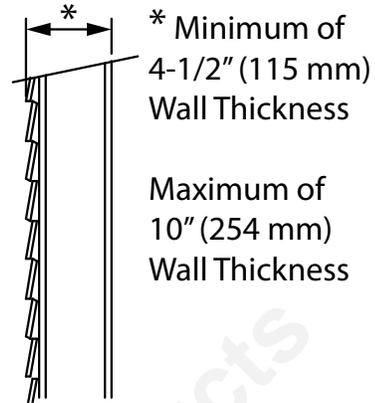

Figure 7
- Taking into account the minimum clearances mentioned in table two, locate the closest wall stud (which will serve to hold the appliance) and mark the square hole center at a distance "A", (if wall stud is at the right), or "B", (if the stud is at the left) (see table 2 and Figures 7 and 8). Note: Use the heat shield to help hold the bracket in place when marking the square hole locations. Note: At least one side of hanging bracket must be attached to a wall stud.
Measure thickness of the wall as shown in figure 7.